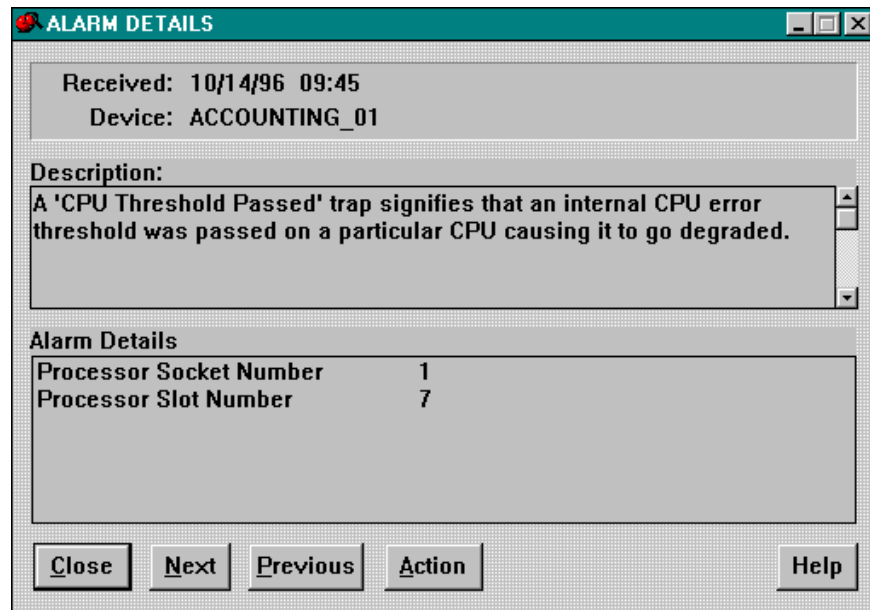

Figure 2. Compaq Insight Manager Alarm Log
- An on-screen message displayed in the Critical Event Log (illustrated in Figure 2)